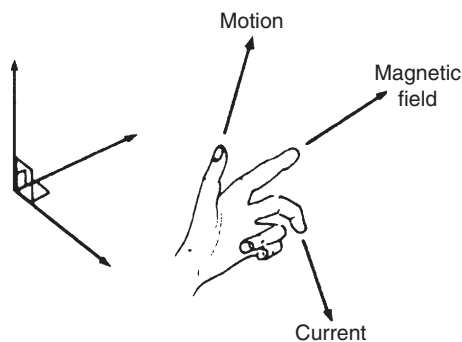

Figure 8.14
*Let the thumb, first finger and second finger of the left hand be extended such that they are all at right-angles to each other (as shown in Fig. 8.14). If the first finger points in the direction of the magnetic field, the second finger points in the direction of the current, then the thumb will point in the direction of the motion of the conductor.*